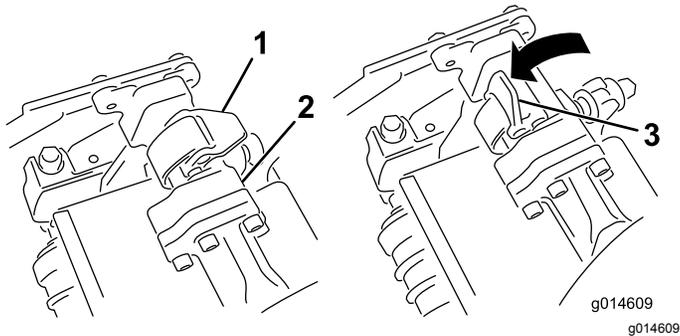
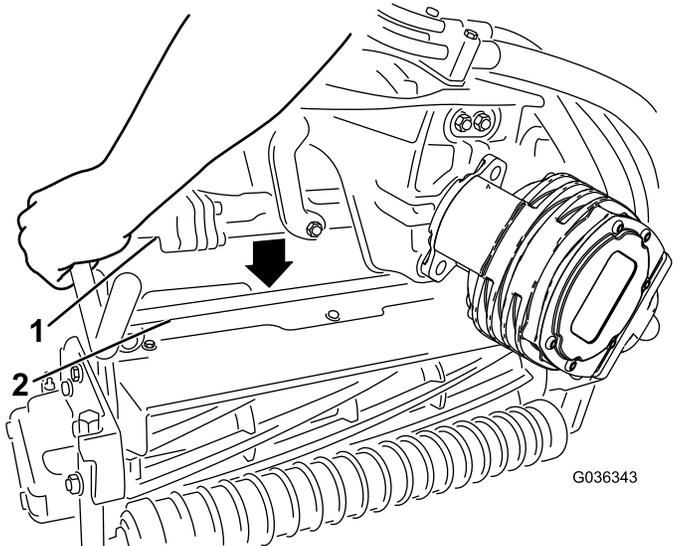

Figure 52
Figure 53
4. With the latches on the suspension-arm bar pointing up (i.e., open) (Figure 52), push the suspension arm down so that the bar fits over the bar across the top of the cutting unit (Figure 53).
5. Close the latches down and around the cutting-unit bar and lock them in place (Figure 52).
5. Open the latches on the suspension-arm bar of the cutting unit you are removing (Figure 52).